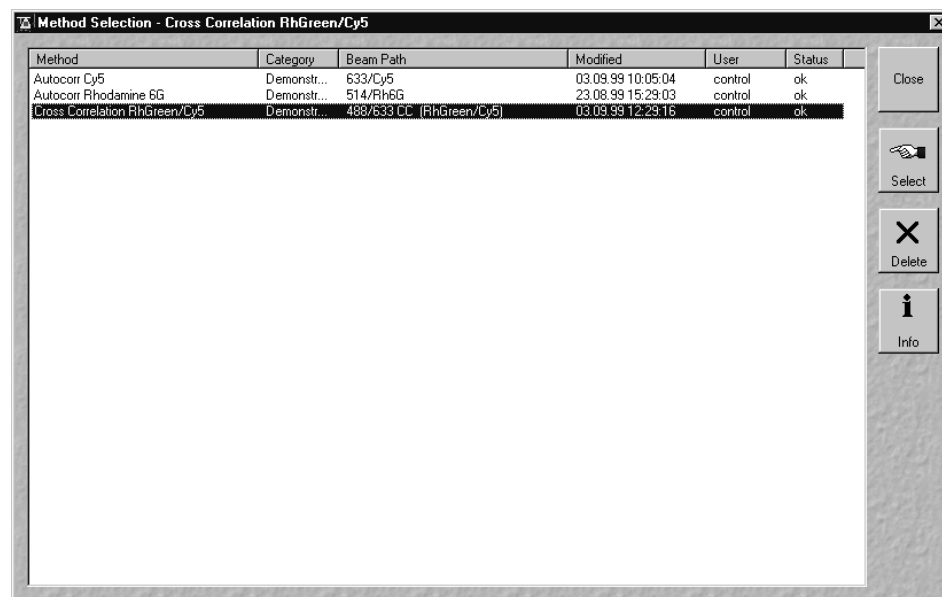

Fig. 3-12 Method Selection ... window
- Click the **Select Method** button in the **Analyse** toolbar subordinate of the **Main** menu. The **Method Selection ...** window will appear (Fig. 3-12).